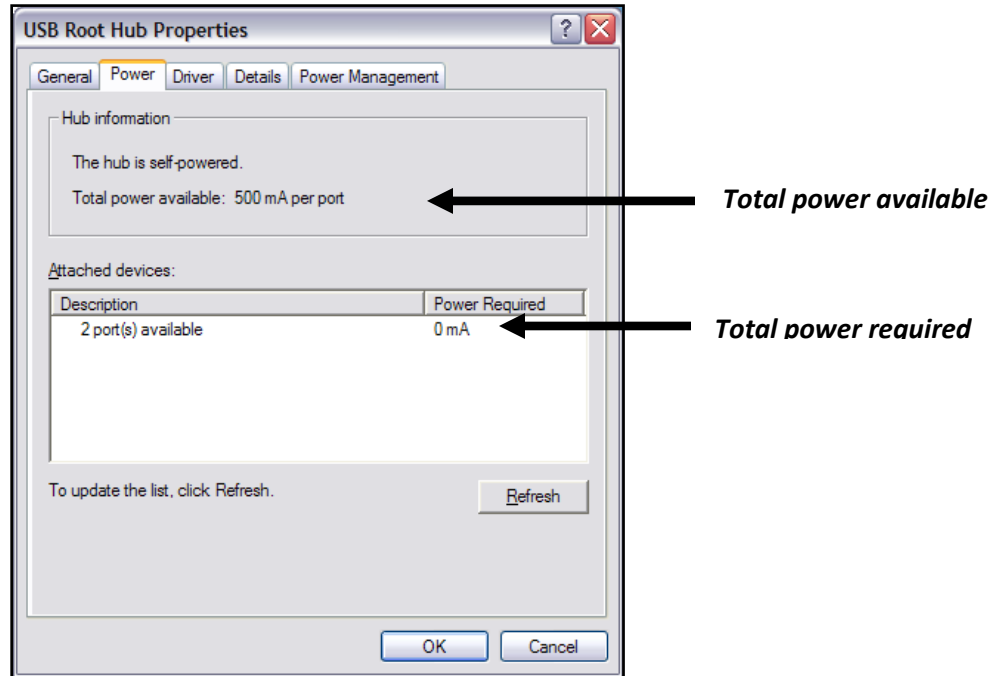

FIGURE 87 - USB POWER SCREEN
9. Click on **Power**. The **Total power available** is displayed as illustrated in *Figure 87*.